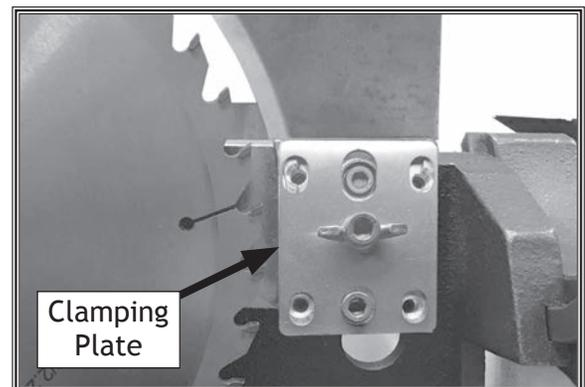

Figure 49. Spreader held between clamping plate and adjustment block.
2. Slide end of spreader between adjustment block and clamping plate. Press firmly until spreader snaps into place (see **Figure 49**).